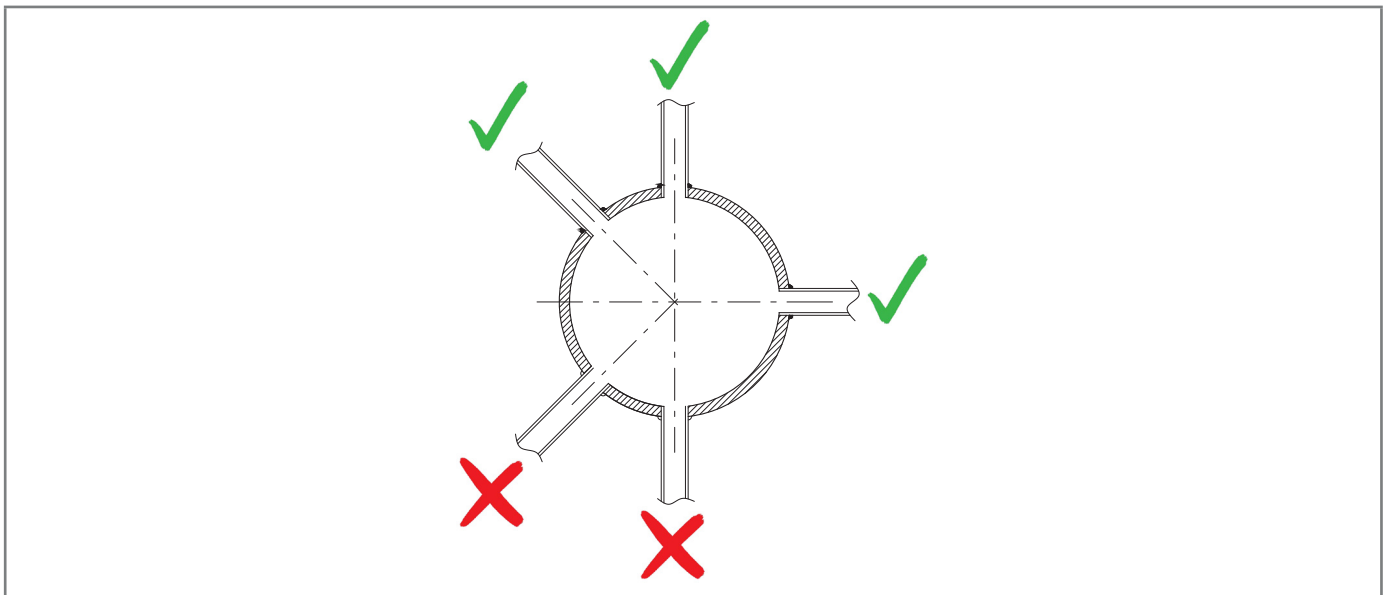

Fig. 6.30. Welded pipe connections
- the connections of the pneumatic connection are always welded to the top or horizontal axis of the pipe itself (refer to Fig. 6.30);